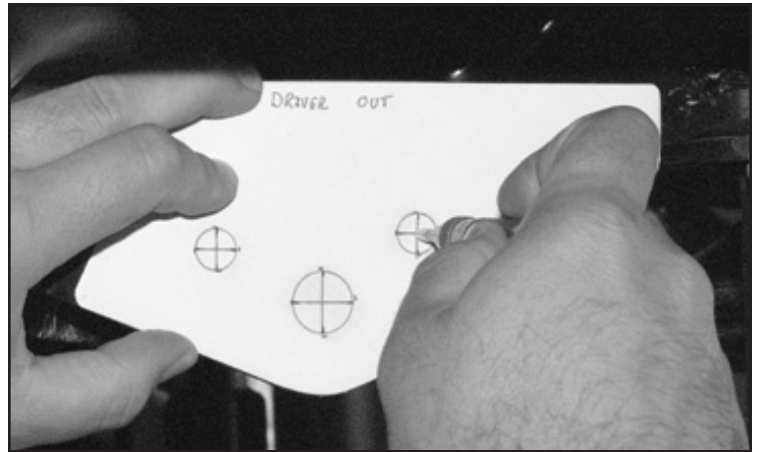

FIGURE 26 - STEP 33
33. Line up the drill template with the factory Radius arm bracket and mark the two holes around the radius arm pivot bolt. **SEE FIGURE 26**